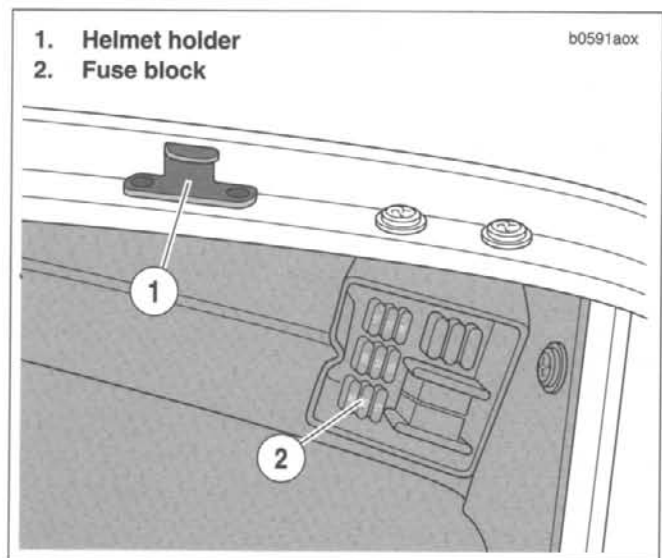

Figure 2-172. Helmet Holder
See Figure 2-172. Two metal tabs on the tail section serve as helmet holders (1). Place helmet D-ring under tab. Install and lock seat to temporarily secure helmet while motorcycle is stationary.